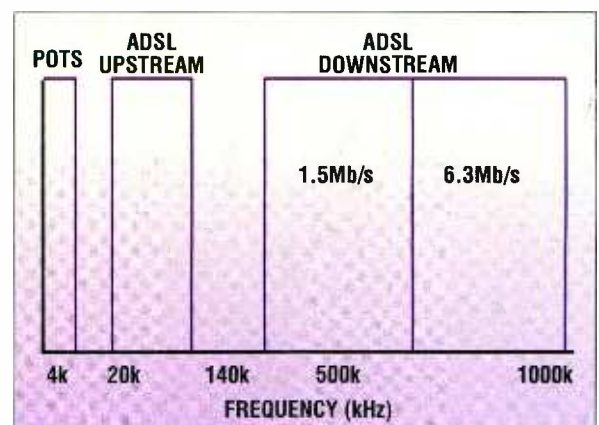

Figure 1. ADSL frequency spectrum.
- **ADSL.** Though ADSL has been tested in real-world conditions by many telcos, notably Bell Atlantic and GTE, it is the least mature of the technologies. There are several conditions that affect an ADSL circuit. First is length of run. The current practical limit for an ADSL loop is 12,000 to 14,000 feet. Second is crosstalk created by other high-speed lines. The presence of a T-1 line within the same bundle can interfere unacceptably with the ADSL circuit. Figure 1 illustrates the bandwidth required by a two-way ADSL system.